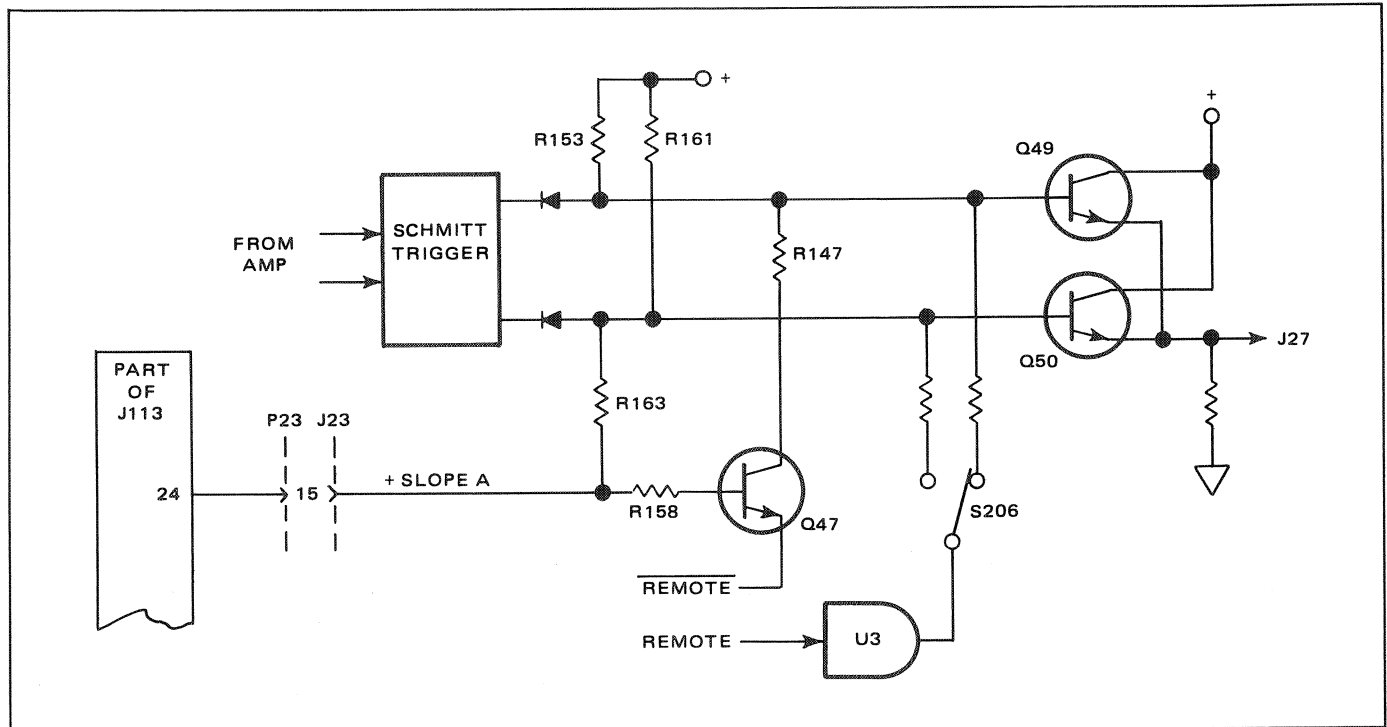

Figure 3.13 - Remote Slope Control (009)
3.60 Shown in figure 3.13 is the circuitry used in the selection of the trigger slope. With remote selected, the front panel slope switch S206 is inhibited and remote + slope select transistor Q47 emitter is at logic 0. With + slope selected at J113-24 (logic 1), transistor Q47 is biased on through R158, R163, and R161, inhibiting the - slope line. With J113 at logic 0, transistor Q47 is biased off and the + slope line is biased off.